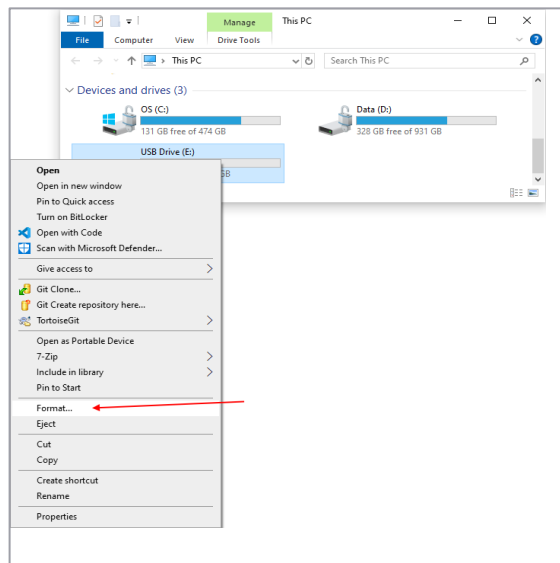

Figure 27. Right-click on USB drive and select “Format”
**Step 1.** Install the USB onto your computer, right-click on the USB drive and select “Format” (Figure 27)